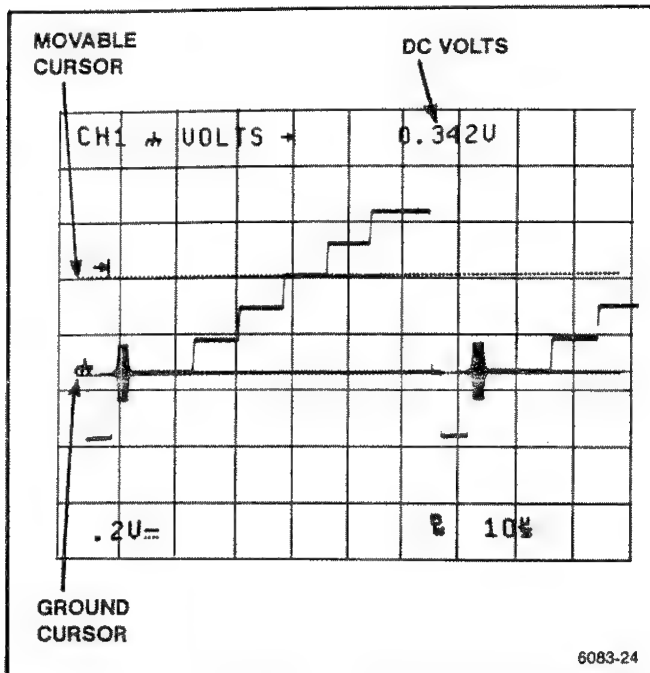

Figure 6-10. Instantaneous dc voltage measurement.
3. Position the independent cursor using the -I or Δ control to the measurement point on the waveform and read out the dc value of the cursor position (shown in Figure 6-10). (The I- or DELAY control has no effect.)
The test signal used for illustration purposes shown in Figure 6-10 is a video test signal. For triggering on video waveforms, select TV LINE Trigger COUPLING and negative Trigger SLOPE; for other signal types, no change of COUPLING or SLOPE is required.